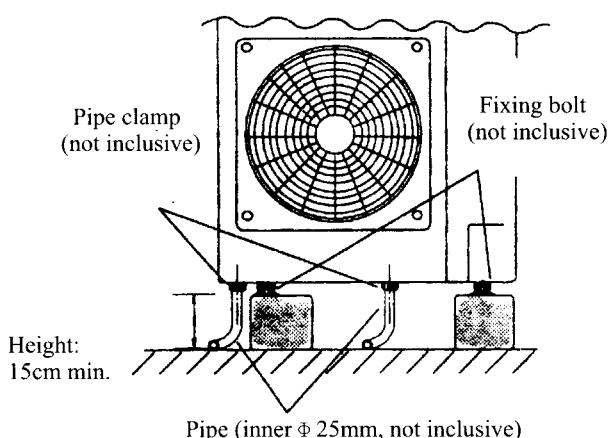

Fig. 99
- Cushion the unit with bricks or strong base at least 15cm thick.(see Fig 99)